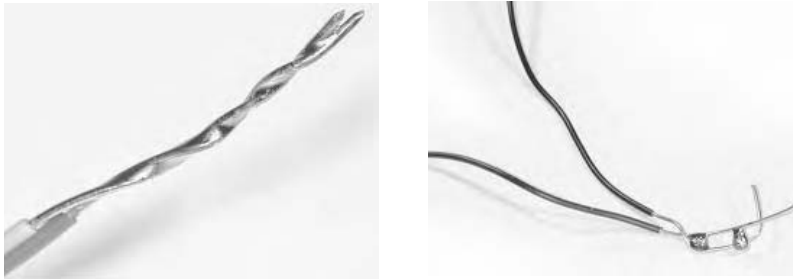

Figure 6.3 A happy solder joint (left) and a sad solder joint (right).
5. Twist the wires around one another like strands in rope. Again, apply a small blob to the iron and use the blob to conduct heat to the bundled wires. After a few seconds the tinned solder should re-melt and flow together; you may apply a little bit more solder to strengthen the joint, but only as much as can flow and distribute itself smoothly—like a wax-impregnated candle wick. Wait several seconds *without wiggling* for the joint to cool and harden (see figure 6.3).